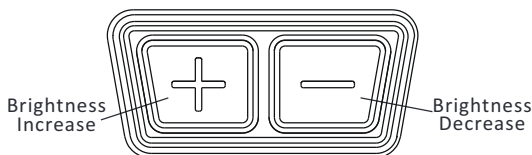

Fig6
1. Switch on (see Fig6) : Momentarily press either brightness button ("+" or "-") to turn on the sight.